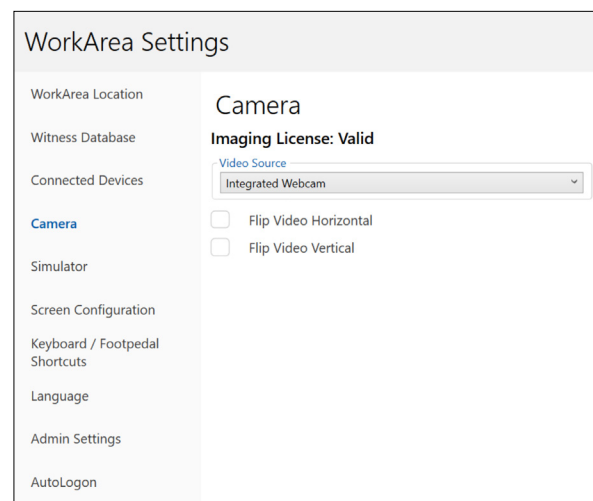

Figure 7-2 Camera Settings
3. Press Camera. See Figure 7-2